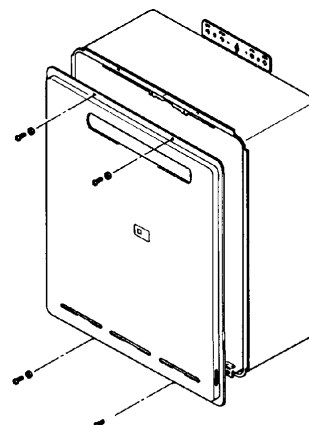

fig.1
2. Remove the front cover from the Appliance (4 screws) fig.1.